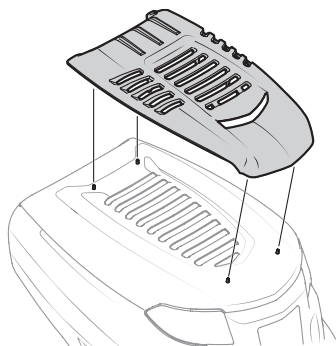

Figure 9
3. Snap the hood topper into place using the hood as your guide. See Figure 9.